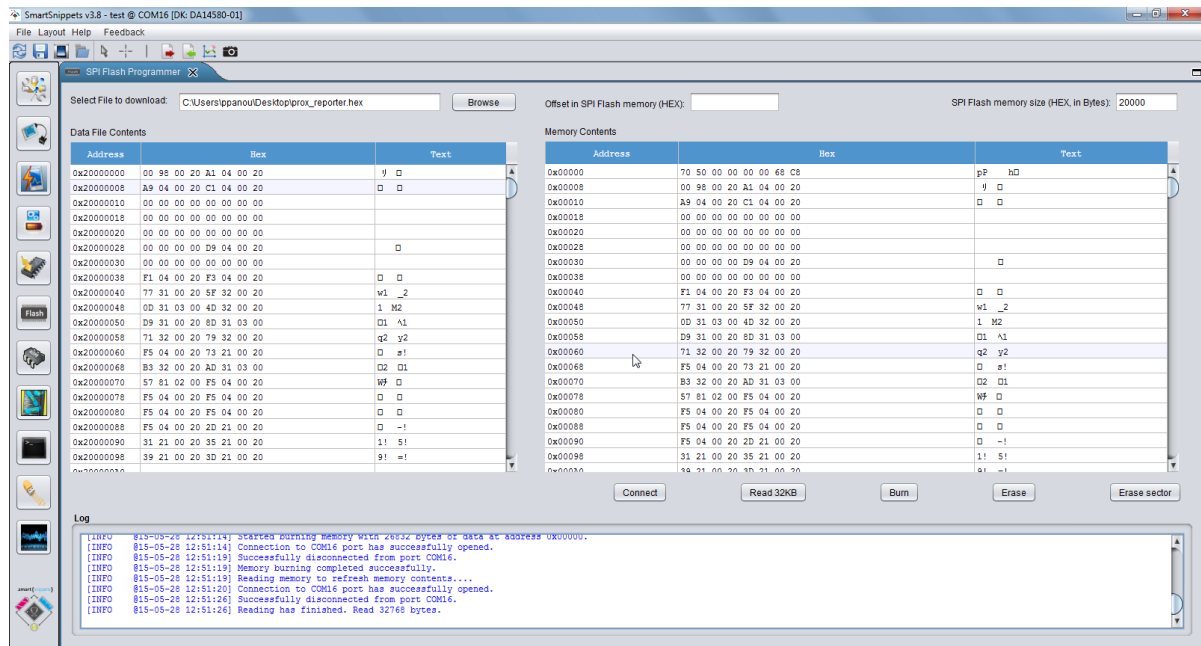

Figure 3: SPI Flash Programmer
3. Open the "SPI Flash Programmer" tool (Figure 3), select the application image file and burn it at SPI flash memory offset 0. When asked whether to make the SPI Flash memory bootable, there are two options to consider depending on the chip version and bootloader configuration: